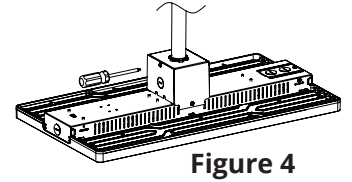

Figure 4
- Step4.** Lock side brackets with screw driver. **(Figure 4)**